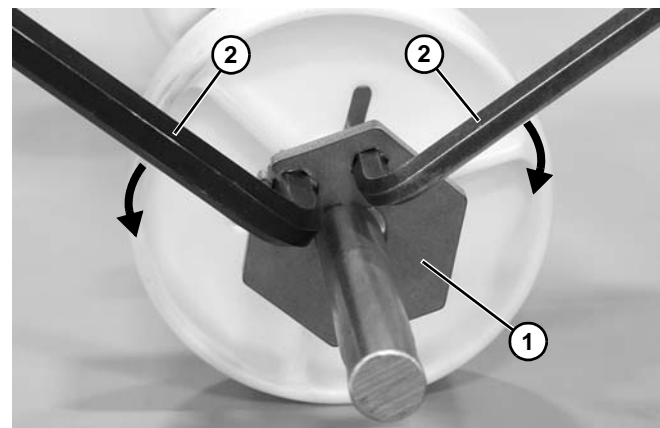

Figure 134
- c. To lock the retainer plate (**Figure 134, item 1**) in place, move the wrenches (**Figure 134, item 2**) away from each other.